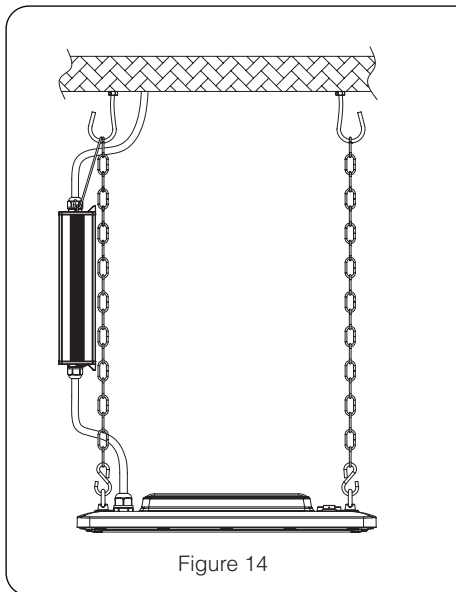

Figure 14
Step1. The emergency kits can be suspended near the luminaire. Separate led circuit is designed for the emergency kits. (Figure 14)